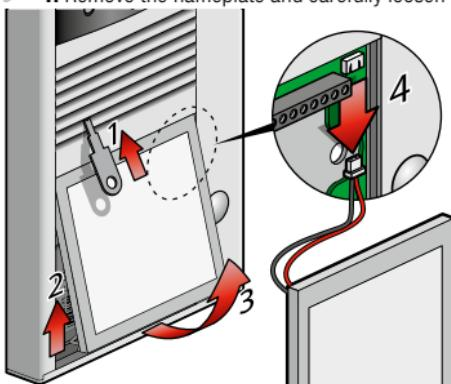

fig. 1
- 1. Remove the nameplate and carefully loosen the connector for the nameplate lighting (fig. 1).